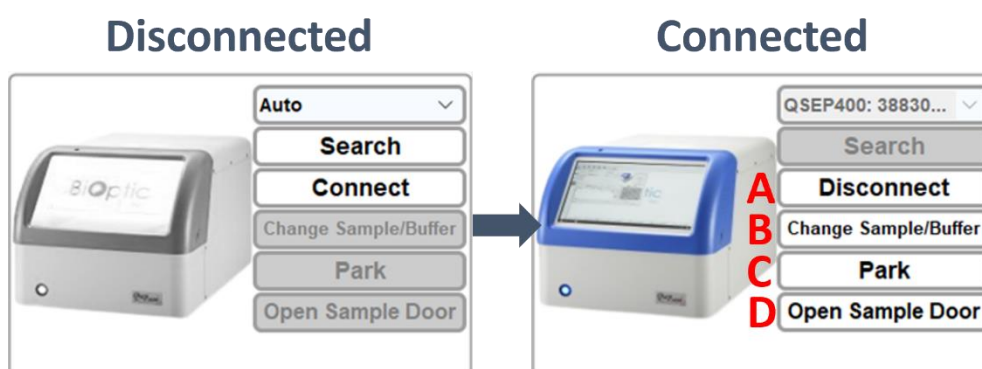

Figure 10 Instrument Connection
To establish the connection between *Qsep400* Bio-Fragment Analyzer and the external PC, click on the **Connect** button on the Control Panel (Figure 10 A). Once the button text changes to **Disconnect** and the displayed image of *Qsep400* Bio-Fragment Analyzer turns into color, the connection is established.
1. Click on **Change Sample/Buffer** to move the tray holder to the door (Figure 10 B) and place the Buffer and Marker on the tray holder. Press the marker tubes tightly down into the wells.
3. Click on **Park** to move the tray holder to the park position (Figure 10 C).